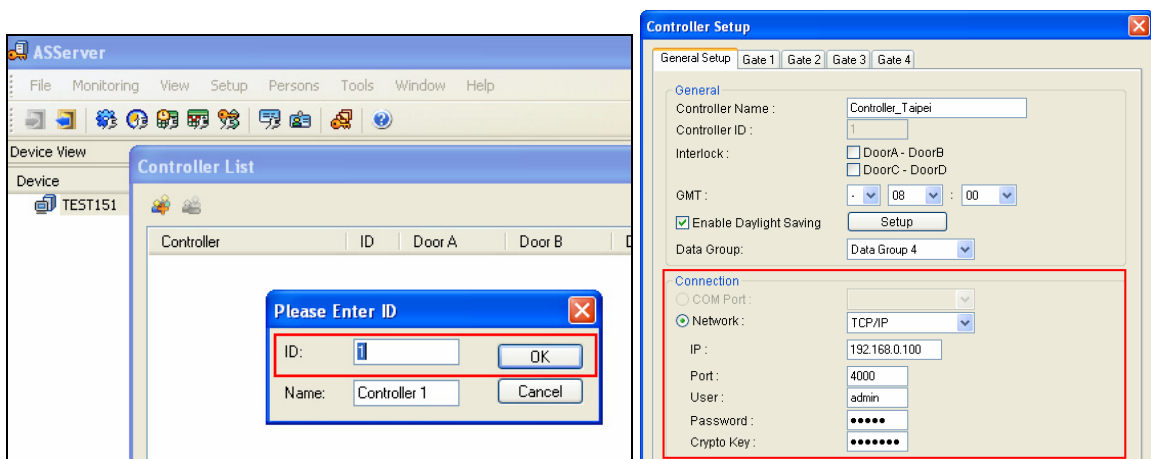

Figure 11-3
7. On the GV-ASManager, enter the following settings. See Figure 11-3.